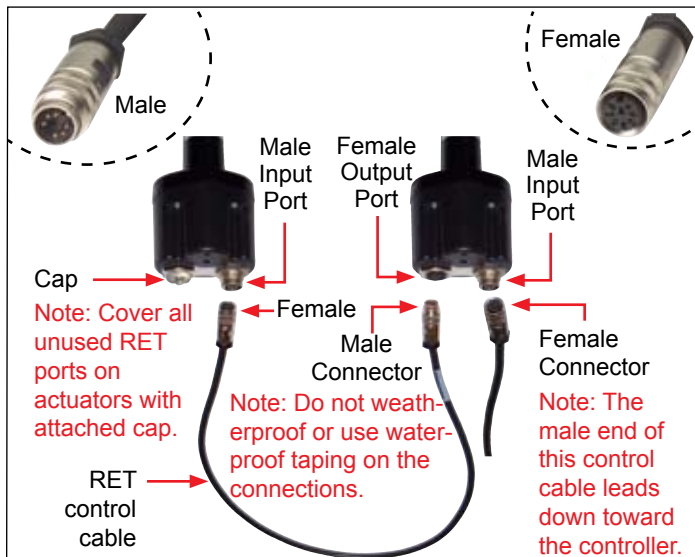

Figure 1. Attaching Control Cables to CommScope Actuators.
2. The control cable connector at the base station end of a home run cable should always be male. See Figures 1 and 2.